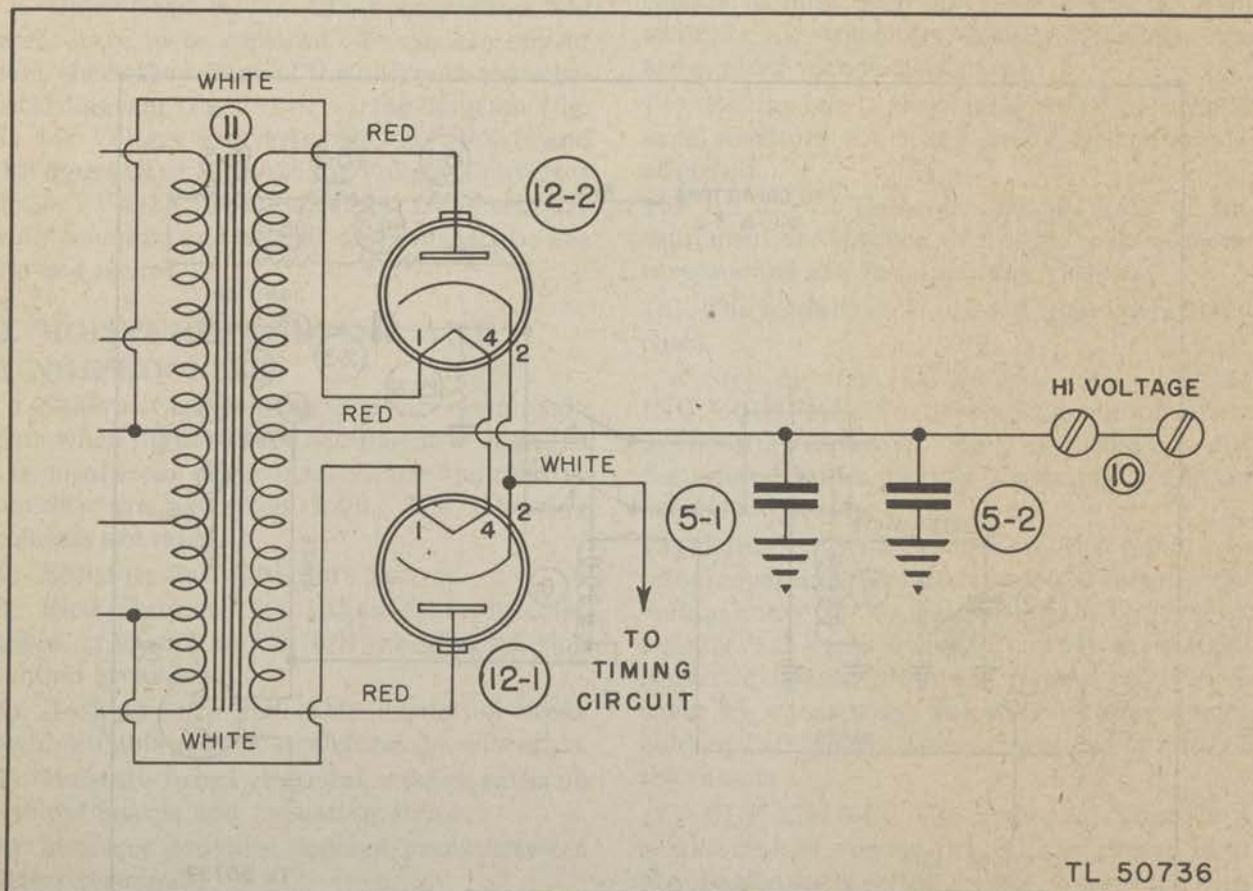

Figure 18. High-voltage secondary circuit, Voltage Converter PP-50/VVX-1X.
(2) A 1-mfd, 165-volt a-c capacitor (2-2) serves as the buffer and is connected to the ends of the transformer primary winding.
(3) A 0.5-mfd, 50-volt d-c capacitor (4) is the input RF filter capacitor.
(4) Another 0.5-mfd, 50-volt d-c capacitor (3-1) and a 5-ohm, $\frac{1}{2}$ -watt resistor (14) serve as the vibrator driver-point suppressors and provide improved vibrator operation.
(5) Another 1-mfd, 165-volt a-c capacitor (2-1) serves as the primary buffer.
b. *High-voltage Secondary Circuit (fig. 18).* The ends of the center-tapped winding of the power transformer (11) are connected to the plate terminals of two 12 X 3 rectifier tubes (12-1) and (12-2). The resulting d-c output, which is taken from the transformer secondary center tap, charges two 23-mfd, 2,000-volt d-c capacitors (5-1) and (5-2).